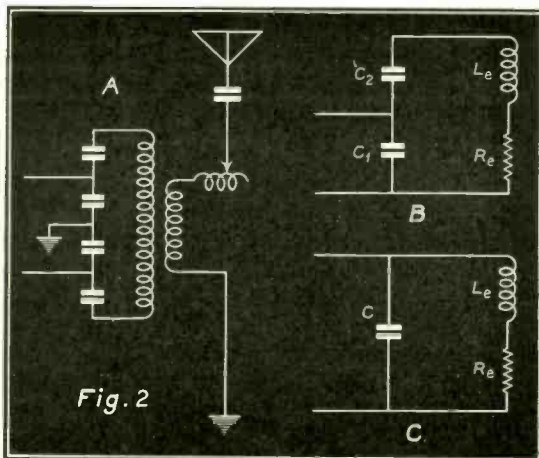
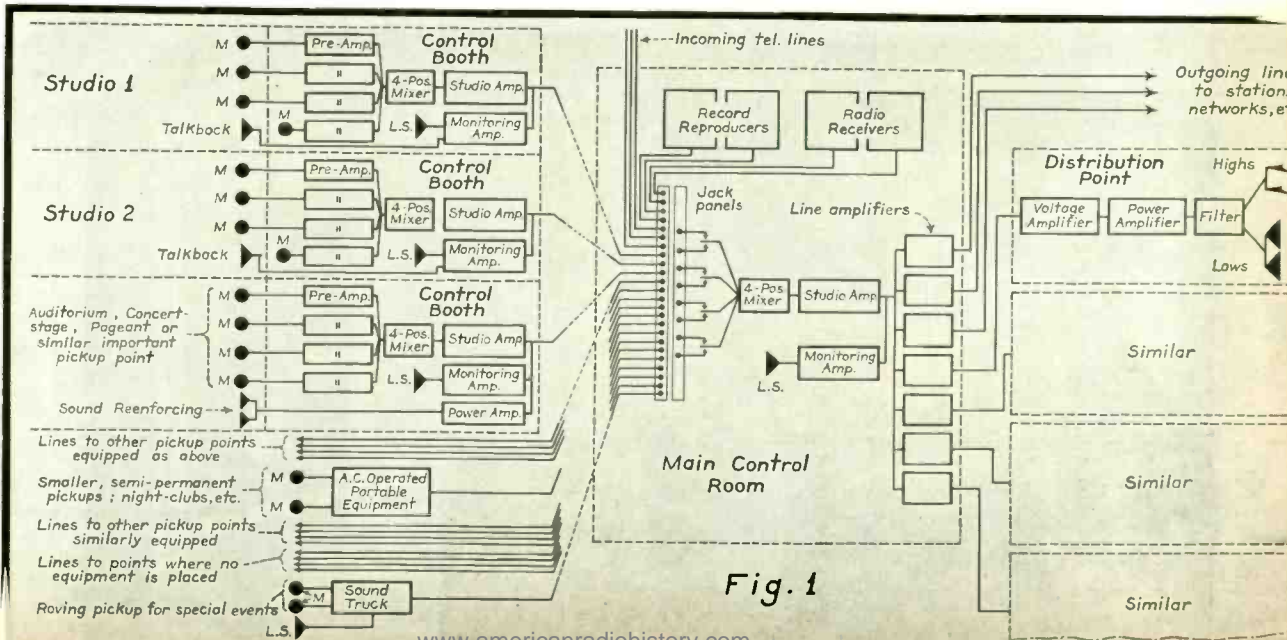

Fig. 2
Fig. 1
Fig. 2 shows a type of circuit sometimes used for terminations where it is necessary to match high-impedance antennas to low-impedance transmission lines and still maintain a high ratio of volt-amperes to watts.
Referring to circuit of Fig. 2-B, C is capacitance of condensers connected in series, expressed in micromicrofarads, while L is in microhenries from equation (14). Use preceding instructions for adjusting this circuit.
cal. However, the larger installations have of late followed a typical pattern which can be reduced to a standard sequence similar to that followed in broadcast installations. Fig. 1 shows the simplified layout of a large-scale installation of this kind. Switching circuits, most of the jacks, and other details, are omitted for the sake of clarity—but, in general, these are utilized in the same manner as in most broadcast systems, and the overall operation should, therefore, be amply clear to those acquainted with broadcast methods.
ever, the distribution of these is somewhat different, in that the proportion of studio, to outside, programs is approximately reversed. In small public-address jobs there are, of course, no studio programs at all. However, in large installations (fairs and exhibits extending over several months or years) it is usually found desirable to provide one or two fully-equipped and correctly-designed studios. In Fig. 1 two studios are shown. The equipment used in these is, in the case of high-quality installations, very similar to that of broadcast installations. In this particular setup, separate control booths are shown, but these may, of course (as is done in many broadcast stations) be combined with the main control room.
FIG. 2. A RACK AND PANEL ASSEMBLY OF EQUIPMENT SUCH AS WOULD BE USED IN THE CONTROL INDICATED IN FIG. 1. THE ESSENTIAL UNITS ARE THE SAME AS THOSE SHOWN IN THE DIAGRAM.
In most such public-address installations, however, the majority of the programs will originate from auditoriums, concert and pageant stages, and the like, scattered about the grounds. The equipment installed at these points may, so far as pickup is required, be similar to the studio equipment. However, an additional requirement must often be considered, viz., that of providing sound reinforcing at the pickup point itself. While this could be accomplished by separate systems, it is obviously desirable to combine the two. A suitable arrangement for this is shown in Fig. 1. It consists, simply, of bridging the necessary power amplifiers across the line at the point where the monitoring amplifier is connected.
FIG. 1. A BLOCK DIAGRAM INDICATING THE GENERAL ARRANGEMENT OF PUBLIC-ADDRESS EQUIPMENT FOR A LARGE FAIR, EXHIBITION, OR THE LIKE. THE FACILITIES SHOWN ARE TYPICAL ONLY, AND WOULD BE MODIFIED TO MEET CONDITIONS OF ANY PARTICULAR SITUATION.
The control room of a public-address installation (Fig. 4) functions in a manner practically equivalent to that of the main control room of a large station or network installation. As shown in Fig. 1, lines from the adjacent studios, and from the permanent and temporary outside pickup points, are terminated on a convenient jack panel (Fig. 2). Also brought to this point are lines from the record reproducers, one or more receivers and lines from outside the grounds. A multiple-position mixer panel is ordi-
The one element of a large public-address installation which differs materially from the broadcasting situation is the operation of the distributing points. In function these are analogous to the transmitters on a radio network. At that point, however, the parallel ends. Looking at Fig. 1, it will be seen that the equipment at these points—which in number may be anywhere from three or four to a score—consists of a voltage or driver amplifier and the necessary power amplifiers to excite several loudspeakers. In most of the installations used to date it has been found necessary to use one type of speaker—exponential horns—to reproduce the higher frequencies, and an-
The arrangement diagrammed in Fig. 1, and described above, is, of course, a general plan, and in any particular instance will be modified in various degree to suit the particular problem. Such modifications will affect both the extent of the flexibility and overall power requirements. A typical example will best serve to illustrate this. The most interesting for this purpose—because it is the most recent, as well as the highest powered—is probably the system recently installed at the new Roosevelt Raceway. The outstanding problem in this installation was that of over-riding the roar of a score of automobiles racing around an unusually concentrated track. This necessitated production of truly tremendous sound power—a total far in excess of anything previously undertaken.